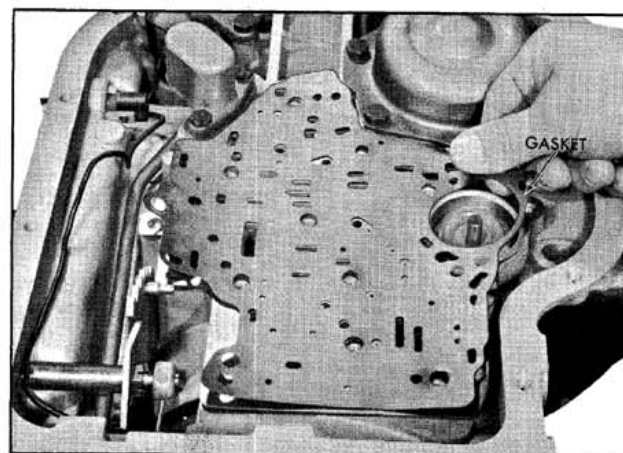

Fig. 6-38 Removing Spacer Gasket
4. Remove the control valve assembly to spacer gasket. (Fig. 6-38)